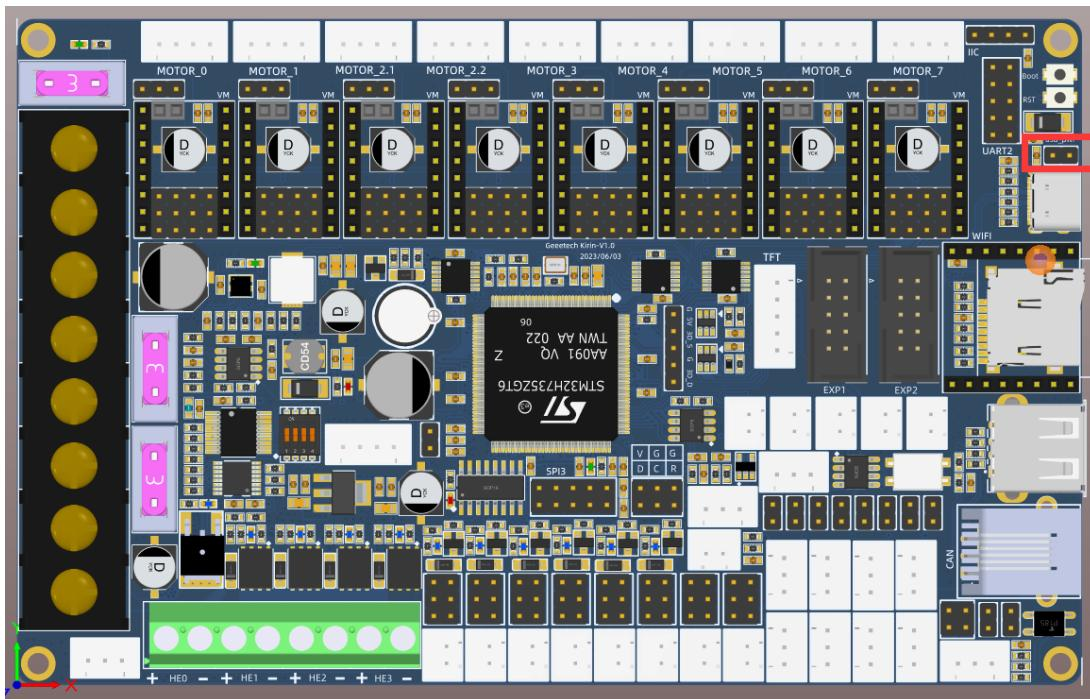

Figure 8-12
- 13) Install the USB_PWR jumper on the Kirin motherboard, at this time Kirin V1.0 is powered by USB 5V and no other power is required, as shown in Figure 8-12: